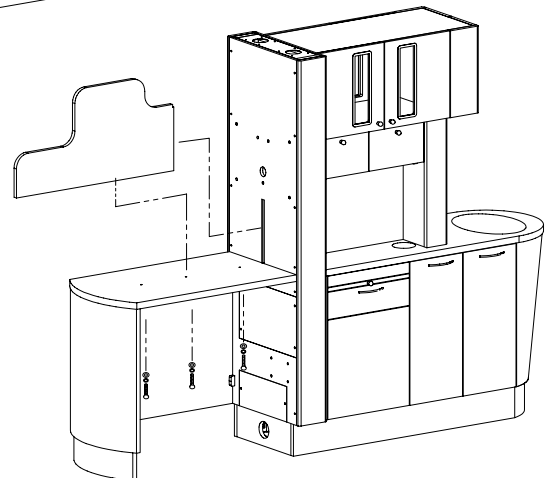

FIGURE 8
Place the privacy panel divider onto the top making sure you seat the end into the groove cut in the utility column. Fasten to the top by screwing in the (3) 1/4-20 x 1 3/4" RH screws with lock washers and washers from underneath the top. See Figure 8.